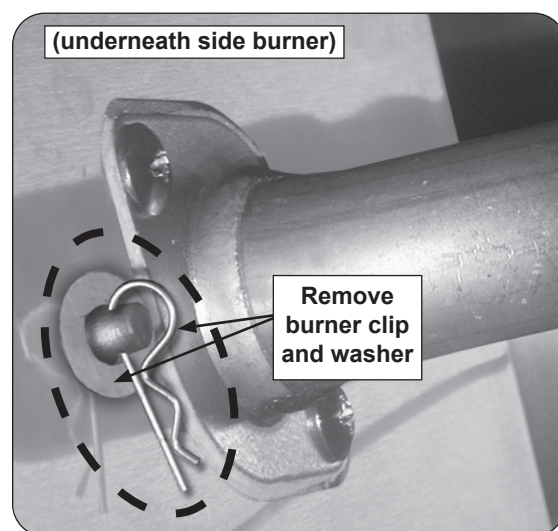

Fig. 38-2 Remove channel
3. Locate a burner and remove the burner retaining clip and washer (see Fig. 38-2), located at the rear of the burner pipe.
7. Replace the burner retaining clip and washer (underneath burner). Reference Fig. 38-2.